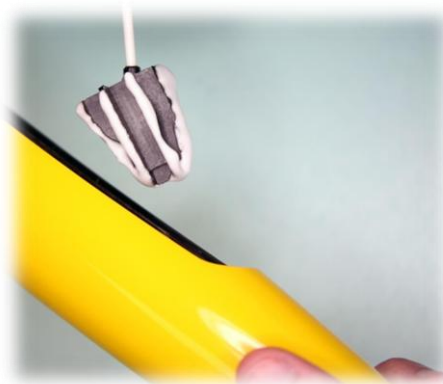

Figure 4: Mounting bracket being positioned inside the fuselage
7. Immediately insert the mounting bracket into the fuselage by guiding it into position with the white plastic tubing that is still attached to the mounting bracket as shown in figure 4.